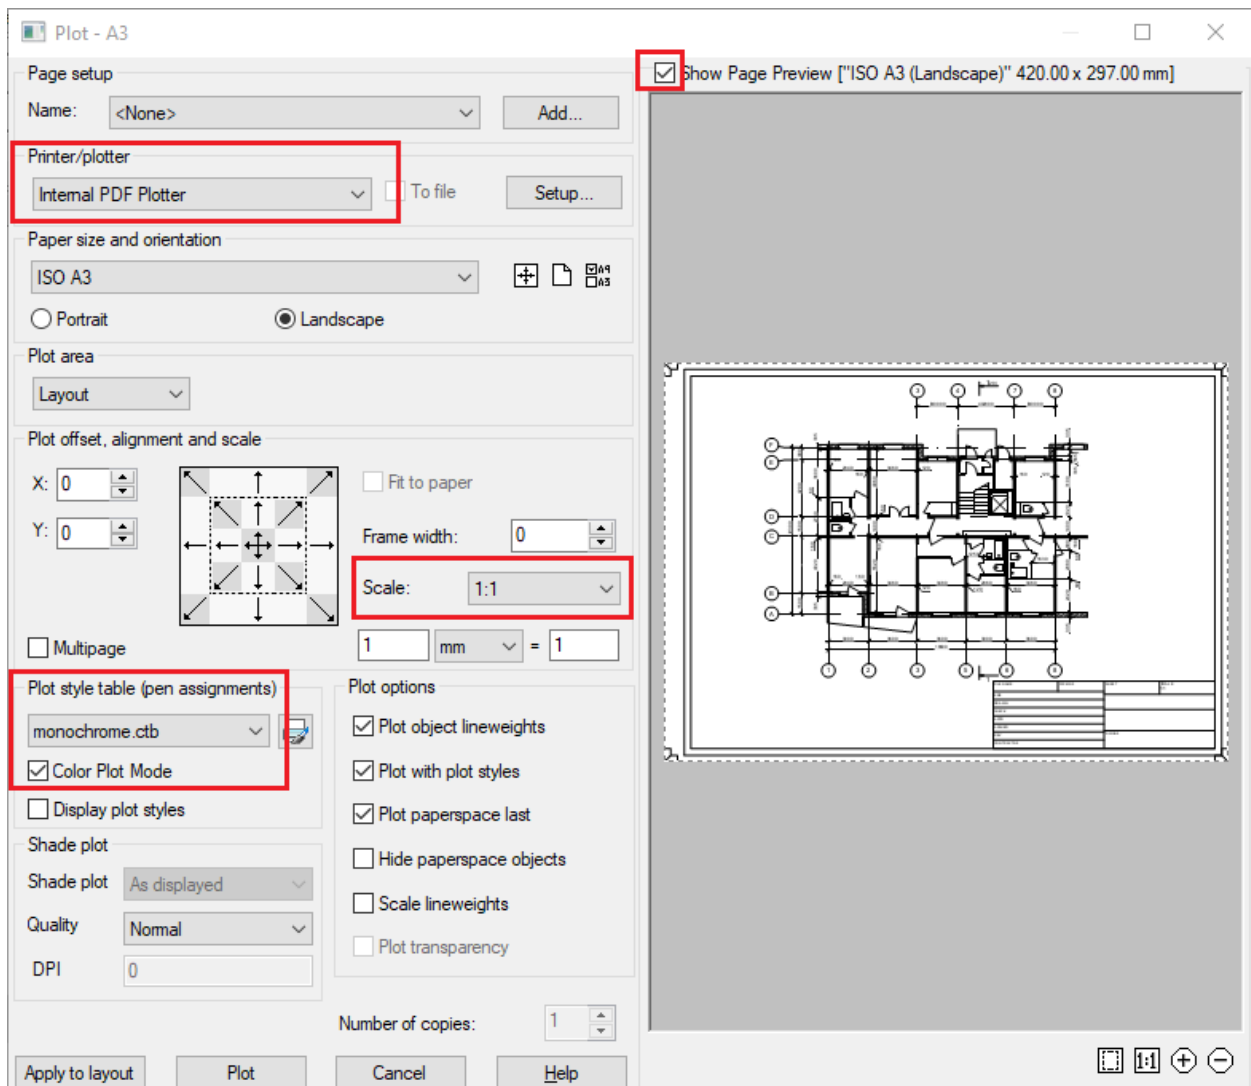

Fig. 49. The Plot manager
3. Use the Internal PDF Printer. Set A3 paper size, 1:1 scale. Select the Show Print Preview option. Specify the Plot Style table – monochrome.ctb (fig. 49):